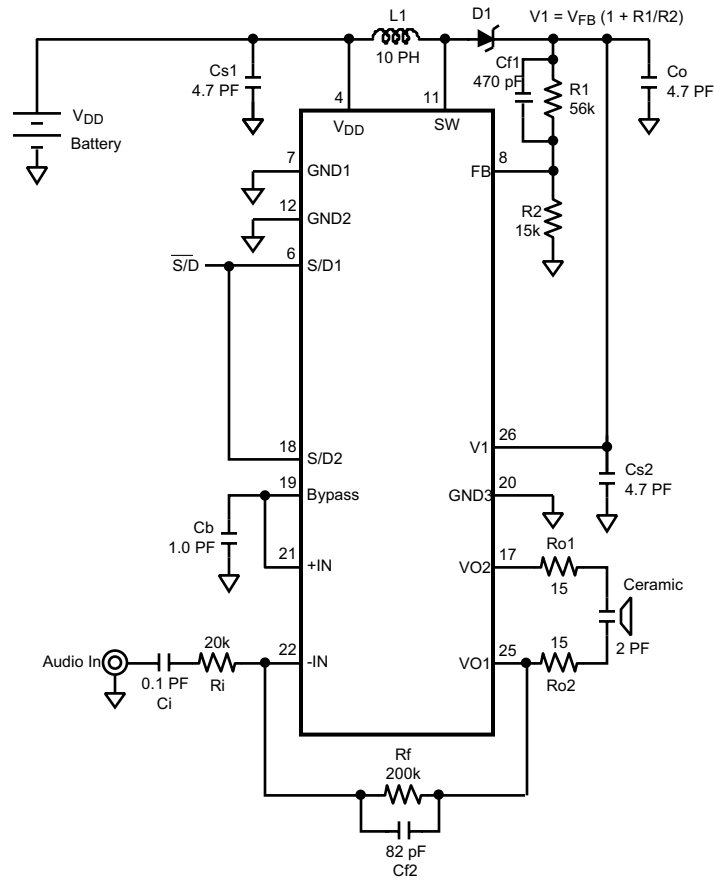

Figure 2. Typical Audio Amplifier Application Circuit
The following specifications apply for $V_{DD} = 4.2V$, $A_{V-BTL} = 26dB$, $Z_L = 2\mu F + 30\Omega$, $C_B = 1.0\mu F$, $R_1 = 56k\Omega$, $R_2 = 15k\Omega$ unless otherwise specified. Limits apply for $T_A = 25^\circ\text{C}$. See Figure 2.
The following specifications apply for $V_{DD} = 4.2V$, $A_{V-BTL} = 26dB$, $Z_L = 2\mu F + 30\Omega$, $C_B = 1.0\mu F$, $R_1 = 56k\Omega$, $R_2 = 15k\Omega$ unless otherwise specified. Limits apply for $T_A = 25^\circ C$. See Figure 2.
(8) Feedback pin reference voltage is measured with the Audio Amplifier's V1 (pin 26) floating and no addition load connected to the cathode of D1 (see Figure 2).
- (1) All voltages are measured with respect to the GND pin, unless otherwise specified.
- (2) *Absolute Maximum Ratings* indicate limits beyond which damage to the device may occur. *Operating Ratings* indicate conditions for which the device is functional, but do not guarantee specific performance limits. *Electrical Characteristics* state DC and AC electrical specifications under particular test conditions which guarantee specific performance limits. This assumes that the device is within the Operating Ratings. Specifications are not guaranteed for parameters where no limit is given, however, the typical value is a good indication of device performance.
- (3) Typicals are measured at $25^\circ C$ and represent the parametric norm.
- (4) Limits are guaranteed to Texas Instruments' AOQL (Average Outgoing Quality Level).
- (5) Datasheet min/max specification limits are guaranteed by design, test, or statistical analysis.
- (6) Shutdown current is measured at an ambient temperature of $25^\circ C$. The Shutdown pin should be driven as close as possible to V_{in} for minimum shutdown current.
- (7) Shutdown current is measured with components R1 and R2 removed.
- (8) Feedback pin reference voltage is measured with the Audio Amplifier's V1 (pin 26) floating and no addition load connected to the cathode of D1 (see Figure 2).